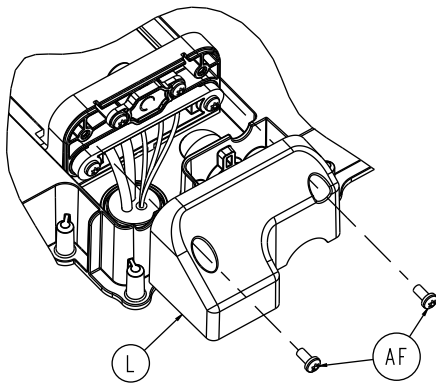

Figure 22 – Remove the battery mount back cover screws
6. Using a T20 Torx driver, remove the two pan head tapping screws (AF) that secure the battery mount back cover (L) to the foot end interface assembly (FEIB) (Figure 22). Save the screws.